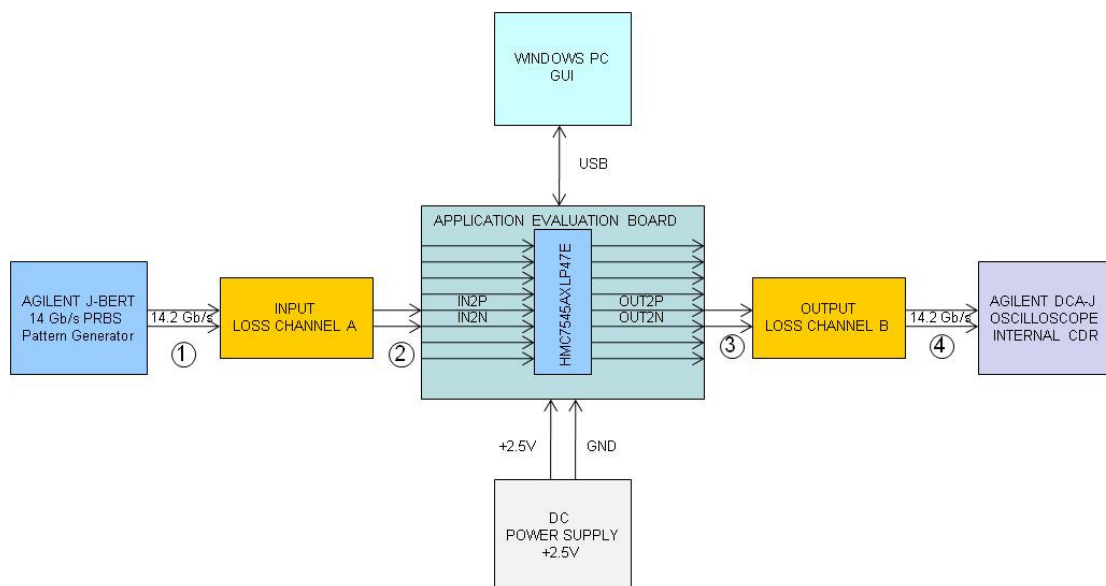

Figure 15. HMC7545AxLP47 Lossy Channel Block Diagram
The reference points, as described, below, are given in the block diagram in Figure 15. Note that in addition to the external load board loss, there is approximately -1dB loss for each of four input and four output differential channels on the EVB. This is due to the on-PCB transmission lines, as shown in Figure 3.
Figure 19. 12.0 Gb/s PRBS 2⁹-1. HMC7545ABLP47 EVB with 10" Load Board Lossy Channel at Output Using 4-Channel Signal Conditioner De-Emphasis (DE), as Indicated by Point 4 in Figure 15.